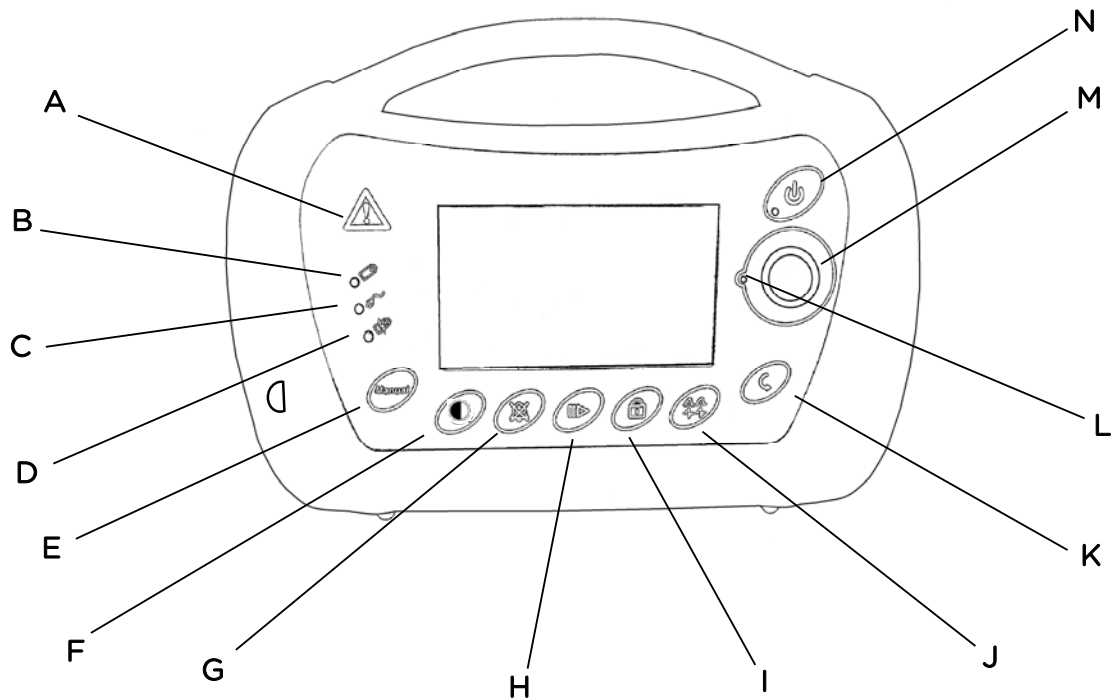

Figure 1
While all ventilation parameter settings are controlled by the Control Selection Knob (M) in Figure 1, there are a number of key membrane buttons which control additional ventilator functions:
To turn on the ventilator, Press the ON/OFF button (N) in Figure 1 for one second, during that second the associated green LED will start flashing at a high frequency. After 1 second the ventilator will turn on but without ventilation until the appropriate patient size symbol is selected. If the button is pressed and released for less than a second, the ventilator will remain OFF.
The Control Selection Knob (M) in Figure 1 is used to navigate between parameters, change modes, select primary function change when rotated, and to confirm function changes when pressed. Diagram below illustrates path of cursor when Control Selection Knob is rotated clockwise.
- 1- Press Lock button (I) in Figure 1. The Lock symbol will be displayed on the screen.
- 2- To cancel the Lock function, press the Lock button (I) again.
Alarm Silence button (G) in Figure 1 will silence audible alarms for 120 seconds. It can also be selected when there is no alarm in order to silence potential alarms. This function is activated or deactivated by pressing the Alarm Silence button once.
Pressing Waveform selection button (J) in figure 1 will switch between the pressure and flow ventilation waveforms displayed on the screen.
The Cancel button (K) in Figure 1 allows the operator to return to the previous settings if the last unconfirmed changes in settings are not required.
During activation of the Pause/ Resume button (H) in Figure 1, the ventilator will stop ventilating with all buttons kept active (if they are not locked) except Manual/ Hold button.
- a. During Pause, there will be an audible alarm associated with the flashing yellow Warning indicator (A) in Figure 1 every 15 seconds. Users can press Alarm Silence button to disable the audible alarm for 2 minutes but the yellow Warning indicator will continue flashing every 15 seconds.
4. To cancel Pause function, press Pause/ Resume button (H) again. The “Resume” symbol will flash on the screen with the confirmation symbol  and the Confirmation indicator (L) to guide users to resume ventilation by pressing the Control Selection Knob (M).
During exhalation phase, if Manual/ Hold button (E) in Figure 1 is pressed, a mandatory breath will be initiated and either the flow rate or set pressure control parameter will be delivered as long as the Manual/ Hold button is pressed or until I-time setting is achieved.